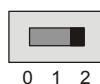

Figure 2-23
- ✓ If you have a Board of Education Rev C, make sure to set the 3-position power switch to position-2 as shown in Figure 2-23.